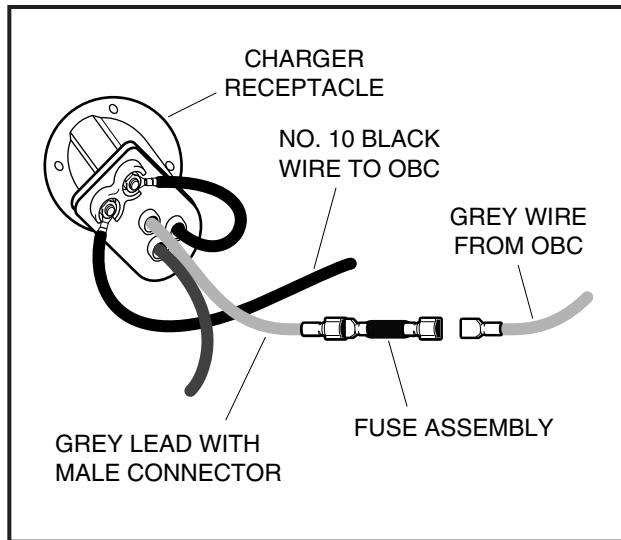

FIGURE 17-15
3. Disconnect the No. 10 black wire (to the OBC) from the back of the charger receptacle (**Figure 17-15**).
4. Disconnect the gray wire (from the OBC) at the sense lead fuse, leaving the sense lead fuse connected to the grey lead from the charger receptacle (**Figure 17-15**).